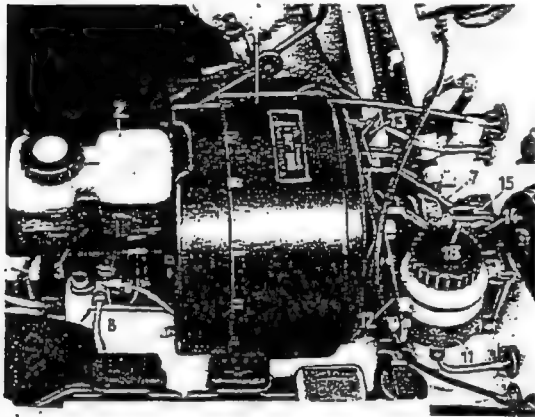

Fig. 42-16/3
5. On all other models detach the piston rod of the power brake from the brake pedal (9) by backing out the adjusting screw (2) (Fig. 42-16/6).
6. On all models with the exception of Model 230 SL remove the power brake (1) together with the intermediate flange (6). To do this, back out two hexagon nuts in the engine compartment and one hexagon nut in the passenger compartment (Fig. 42-16/5).